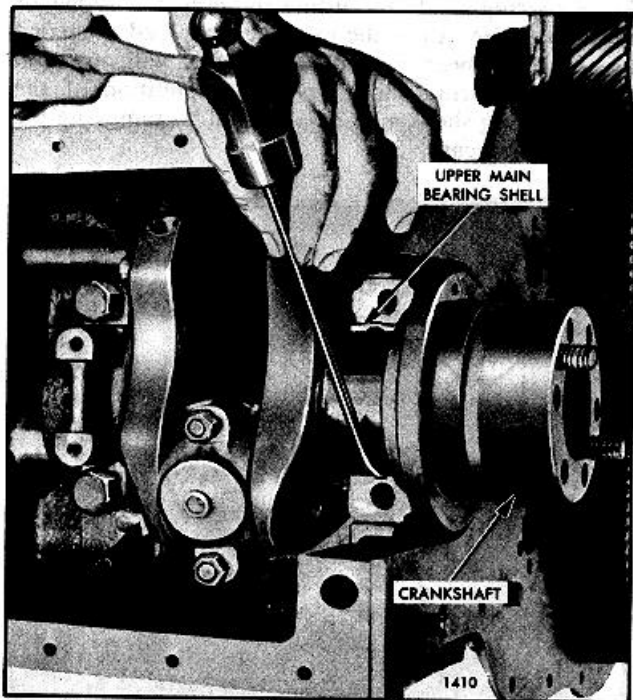

Fig. 4. Removing Upper Rear Main Bearing Shell
- b. Remove the rear main bearing upper shell by tapping on the edge of the bearing with a small curved rod, revolving the crankshaft at the same time to roll the bearing shell out as shown in Fig. 4.